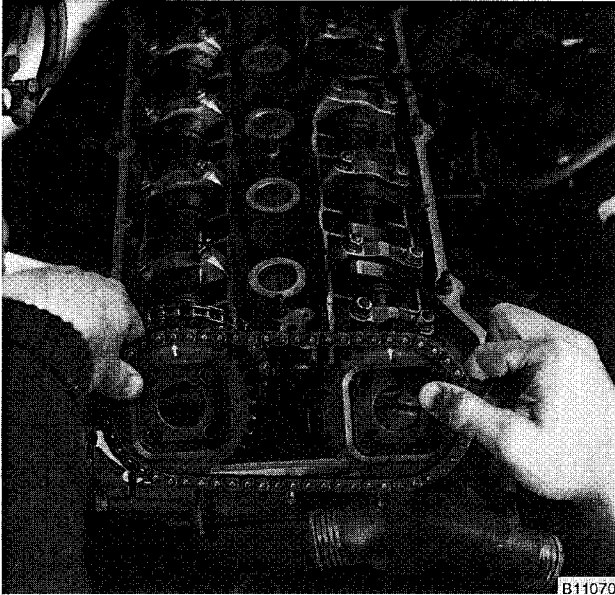

Fig. 44. Secondary chain sprockets and chain being installed. Attach sprockets with arrows pointing up and elongated holes centered.
11. Install as an assembly, secondary chain sprockets and chain so that arrow(s) on sprocket(s) are pointing up. Center mounting holes in sprockets to bolt holes in camshafts. See Fig. 44.